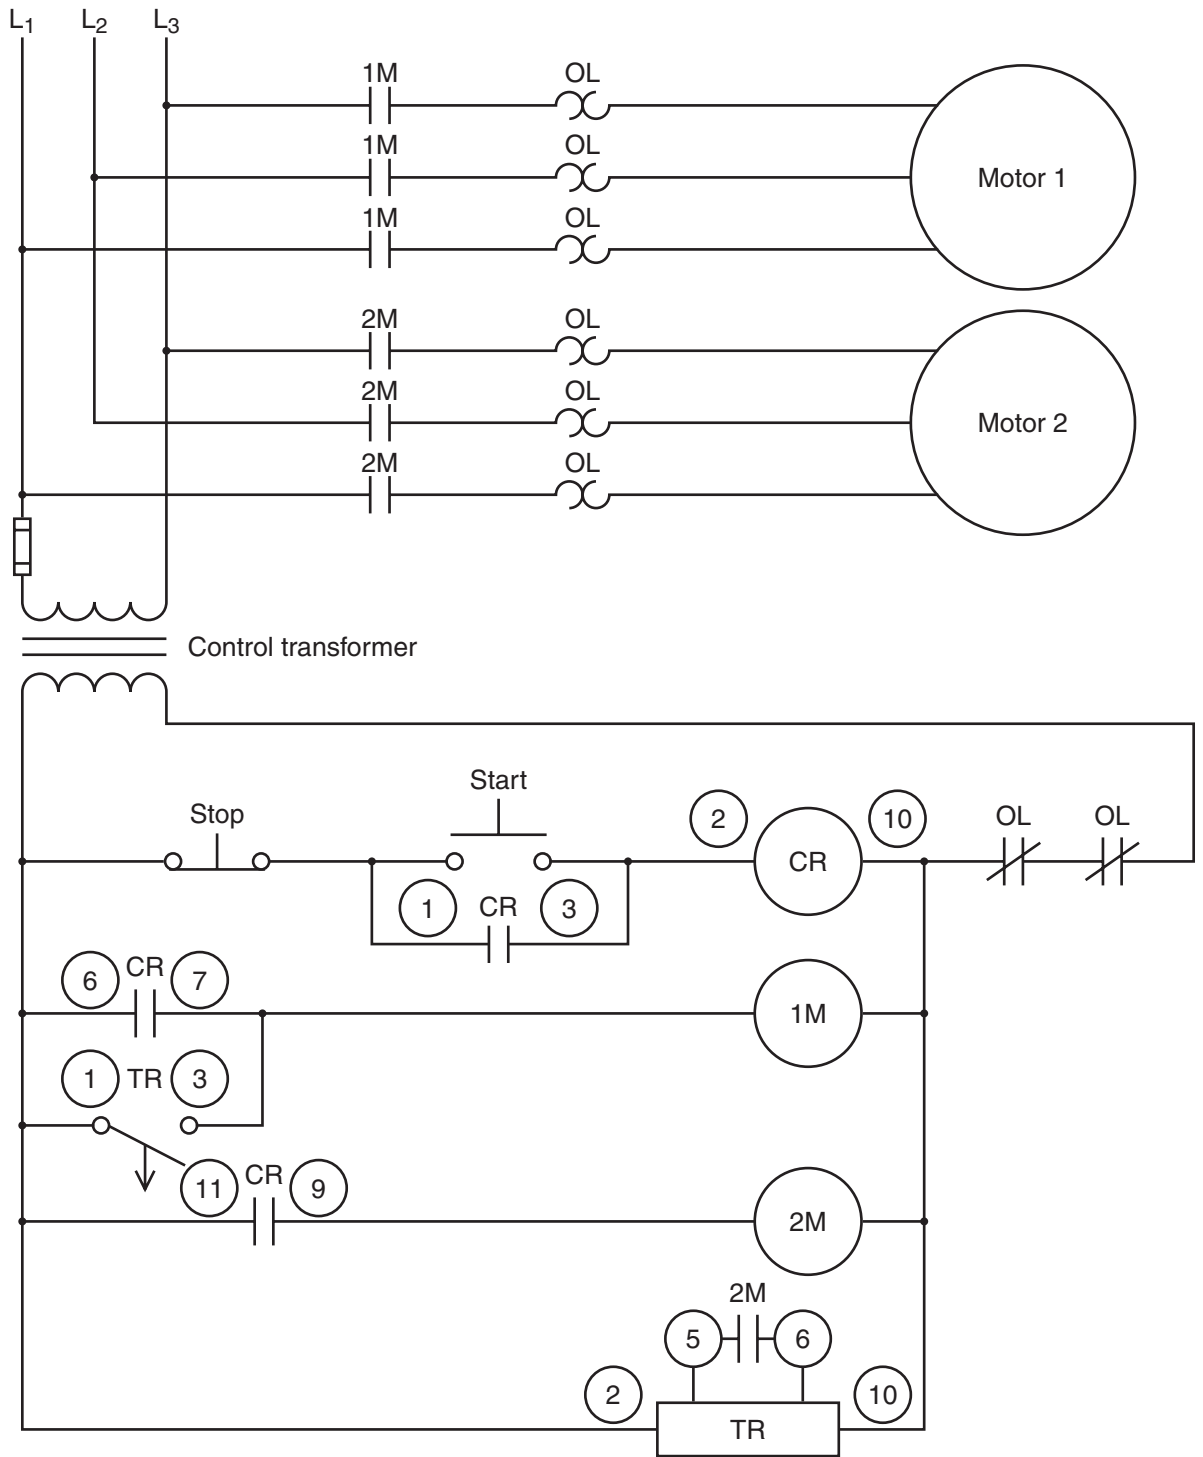
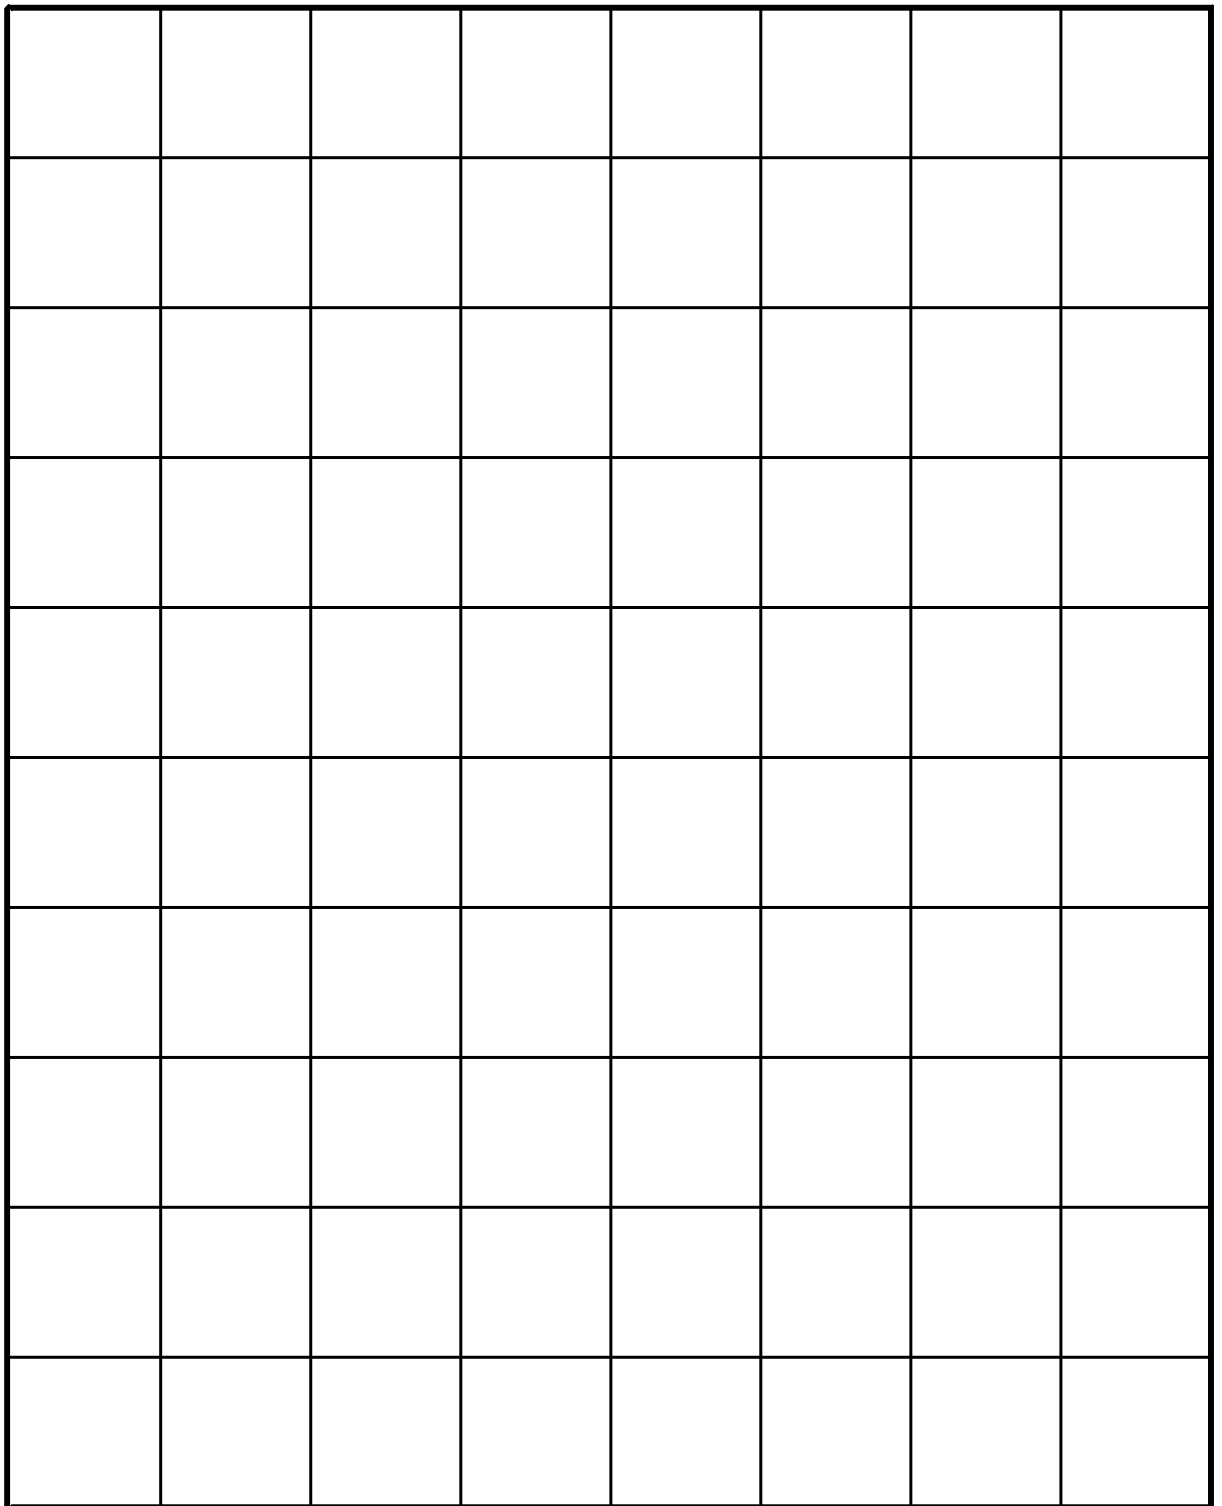

Figure 32-7 Amending circuit 2 for an electronic timer.
Figure 32-9 Amending the circuit design.
Circuit #2 will be amended in much the same way as circuit #1. The timer must have power connected to it at all times (Figure 32-7). Notice in this circuit that the action of the timer is controlled by starter 2M instead of 1M. When coil 2M energizes, a set of normally open 2M contacts closes and shorts pins 5 and 6 of the timer. When coil 2M de-energizes, the 2M auxiliary contacts reopen and start the time sequence of timer TR.
4. Refer to the circuit shown in Figure 32-7. Assume that when the start button is pressed, motor #1 starts operating immediately, but motor #2 does not start. When the stop button is pressed, motor #1 stops operating immediately. Which of the following could cause this condition?
5. Refer to the circuit shown in Figure 32-7. When the start button is pressed, both motors #1 and #2 start operating immediately. When the stop button is pressed, motor #2 stops operating immediately, but motor #1 remains running and does not turn off after the time delay period has expired. Which of the following could cause this condition?
6. Refer to the circuit shown in Figure 32-7. Assume that timer TR is set for a delay of 10 seconds. Now assume that timer TR is changed from an off-delay timer to an on-delay timer. Explain the operation of the circuit.
7. Using the space provided in Figure 32-9, modify the circuit in Figure 32-7 to operate as follows: